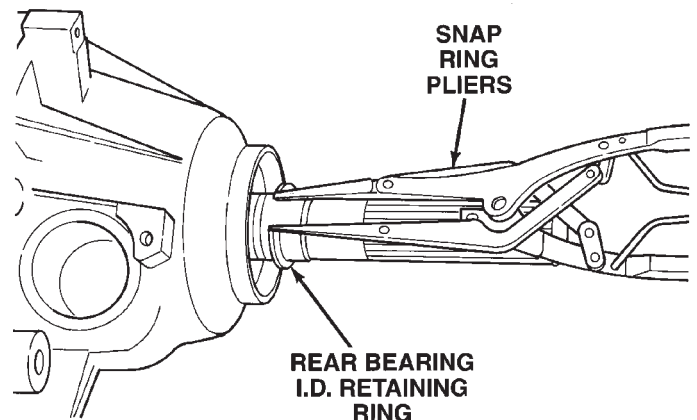

Fig. 11 Output Shaft Rear Bearing Retaining Ring
(7) Remove the rear output bearing I.D. retaining ring (Fig. 11).
(8) Remove the bolts holding the rear retainer to the rear case half.